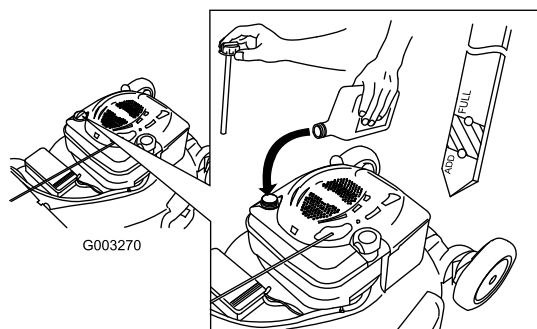

Figure 7
- Remove the dipstick (Figure 7).
- Slowly** pour oil into the oil fill tube until the oil level reaches the Full line on the dipstick (Figure 7). **Do not overfill.** (Max. fill: 20 oz. (0.59 l), type: SAE 30 detergent oil with an API service classification of SF, SG, SH, SJ, SL, or higher.)